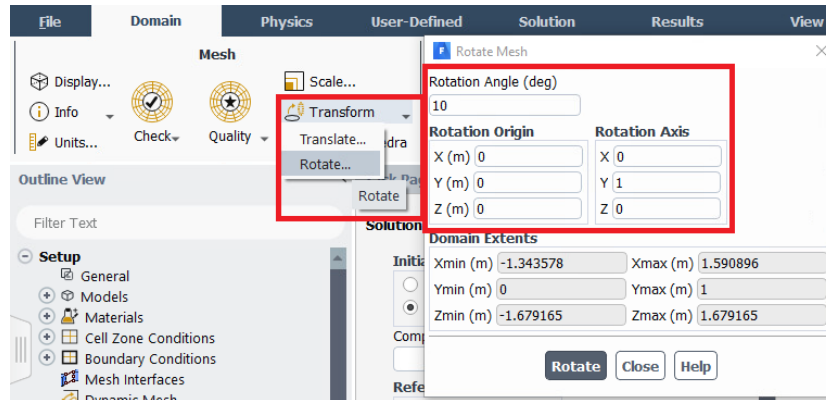

Figure 18. Rotate the domain, and set the angle of attack.
3.6.2. In the top **Domain** tab, under **Mesh**, click on **Transform> Rotate**. In the popup Rotate Mesh window, set “Rotation Angle (deg)” to 10, and “**Rotation Axis**” to X 0, Y 1, Z 0 as shown in Figure 18.